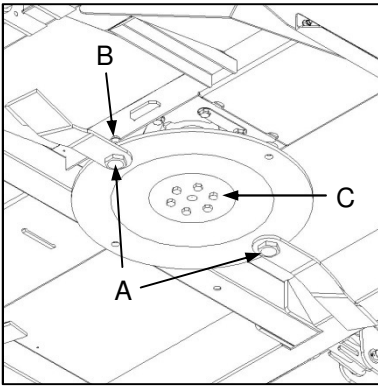
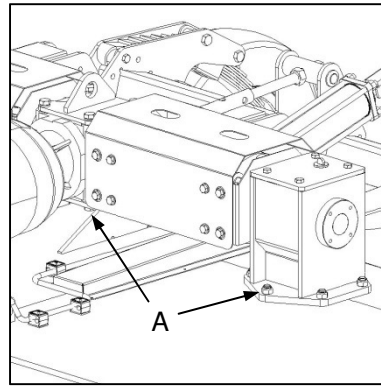
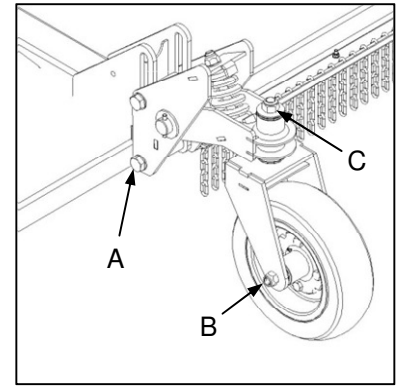

Fig. 1
Fig. 2
Fig. 3
- ✔ Check all fasteners for tightness. This includes special attention safety-critical fasteners such as blade bolts and nuts (Fig. 1-A/B), cutting gear mounting bolts (Fig. 1-C), gearbox mounting bolts (Fig. 2-A) and all wheel assembly fasteners and pivot points (Fig. 3-A/B/C).
- ✔ Verseker dat alle hegstukke vas is. Dit sluit in spesiale aandag aan veiligheidskritieke hegstukke soos lemboute en -moere (Fig. 1-A/B), sny Meganisme-monteer-boute (Fig. 1-C), ratkasmonterboute (Fig. 2-A) en alle wielmonteringhegstukke en spilpunte (Fig. 3-A/B/C).